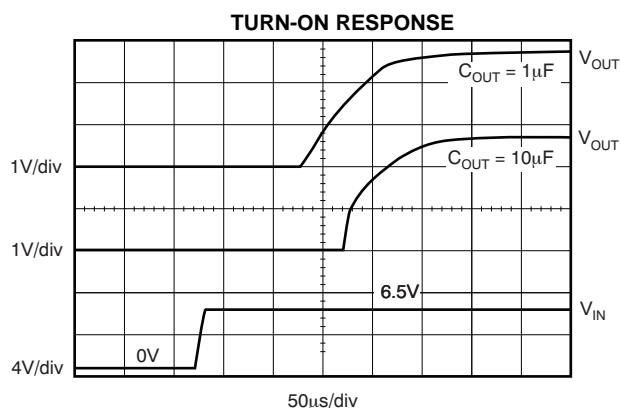

Figure 31.
Note that for fastest startup,  $V_{\text{IN}}$  should be applied first, then the enable pin (EN) driven high. If EN is tied to IN, startup will be somewhat slower. Refer to Figure 31 in the Typical Characteristics section. The quick-start switch is closed for approximately  $135\mu\text{s}$ . To ensure that  $C_{NR}$  is fully charged during the quick-start time, a  $0.01\mu\text{F}$  or smaller capacitor should be used.